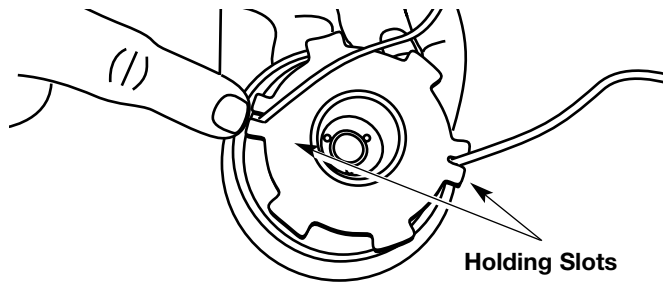

Figure 25
12. Insert the ends of the line into the two holding slots. See Figure 25.